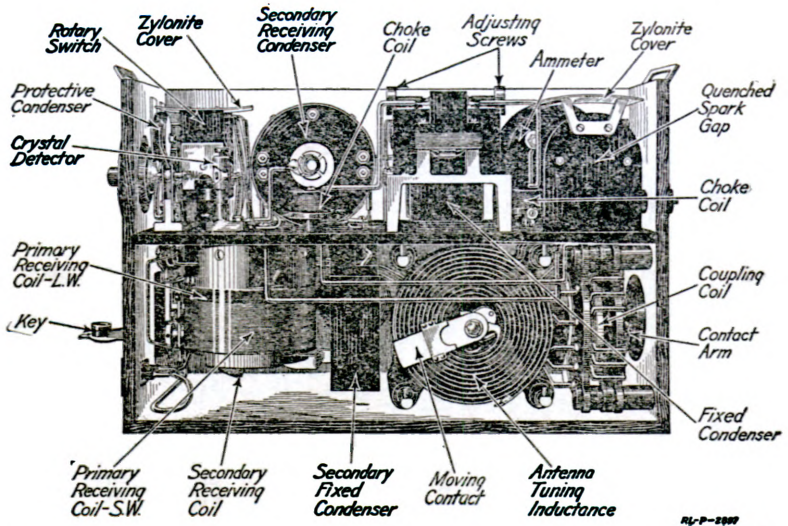
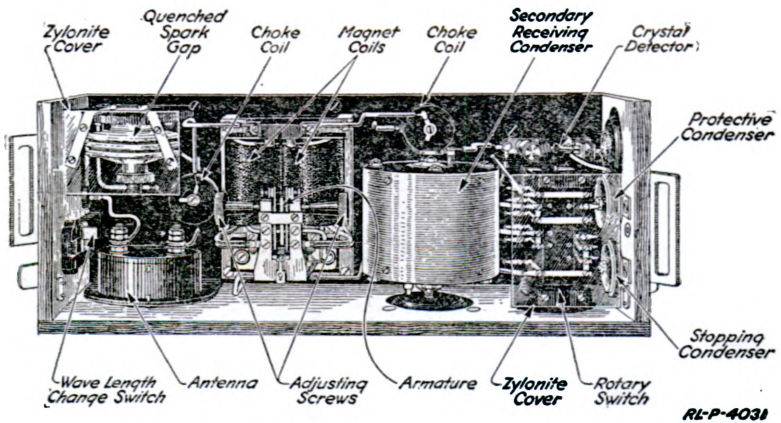

Fig. 50.—Set box BC-53-A with back and top removed to show interior.
Fig. 51.—Top view of interior, set box BC-53-A.
1. Remove the eight screws from the back of the set box, also the canvas cover from the front of the box. Unlatch the lid of the box and remove the top, back, and bottom of the set box. This will expose the parts to view as shown in Fig. 50 and in Fig. 51.